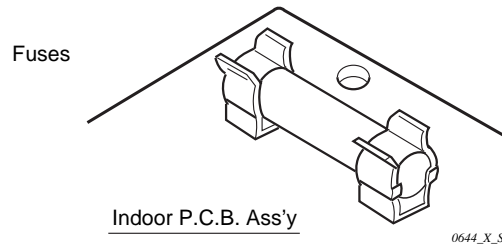

Fig. 48
⑤ Fuse on indoor P.C.B. Ass'y
- Remove the P.C.B. Ass'y from the electrical component box. Then pull out the fuse from the P.C.B. Ass'y. (Fig. 48)